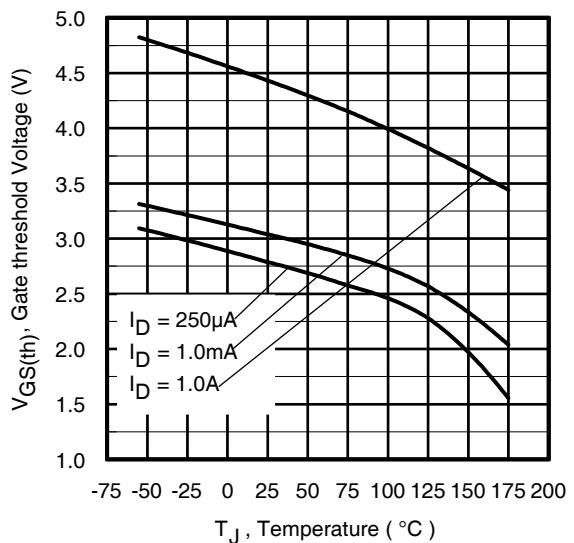

Fig 13. Typical Threshold Voltage vs. Junction Temperature
**Notes on Repetitive Avalanche Curves , Figures 13, 14: